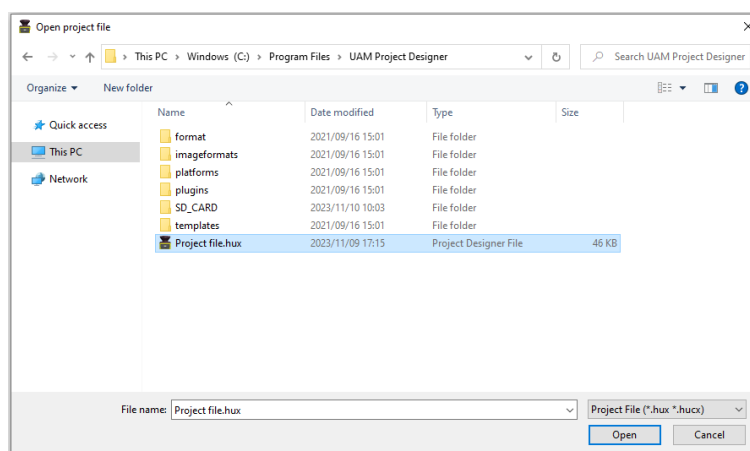

Figure 7-58 Open project file
- c) Dialog box will appear (Figure 7-58). Select the project file [*****.hux] to open.